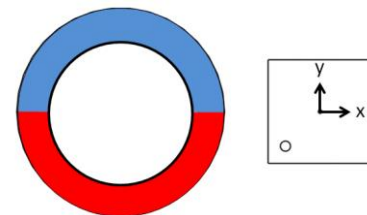

Figure 27: Package Top View with X- and Y-Axes
Next, plot the error curve (the output minus the real mechanical position vs. the real mechanical position) and extract two parameters: the maximum error (*E*), and the position of the maximum with respect to a zero crossing (*a_M*) (see Figure 27). The *k* ratio can be calculated with Equation (5):
The dot marked on the package indicates whether the radial field is aligned with the sensor coordinate X or Y (see Figure 27).
For example, Figure 27 on page 20 shows that the field along the sensor’s Y direction is tangential and weaker. This means that the X-axis should be reduced (ETX = 1 and ETY = 0).